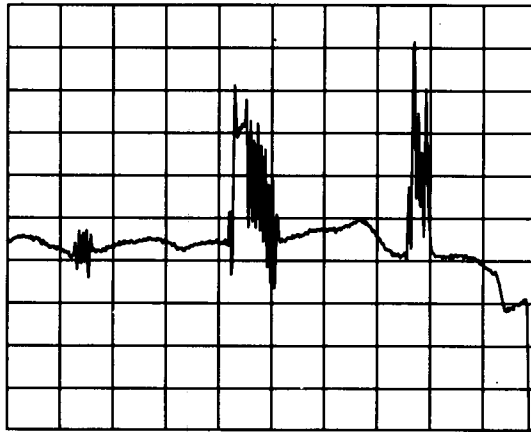

Figure 5-58. Oscilloscope Display with Squegging Present
- Using the DUT's front panel rotary knob (RPG), vary the ALC level from -20 dBm to $+20$ dBm. Look for squegging as shown in Figure 5-58. As the power level is increased, you will need to decrease the vertical sensitivity (CHAN A) and adjust the vertical positions on the oscilloscope. If any squegging occurs, examine the ENTRY DISPLAY to determine the requested ALC level. If the ALC level is at or below the maximum specified leveled power, adjust A22R50 (C) counter-clockwise to eliminate the squegging. If the ALC level is above maximum leveled power, what you are seeing is probably the RF output going unlevelled and cannot be adjusted out.
Squegging on the oscilloscope display may appear as shown in Figure 5-58 (power spikes and oscillations) or it may appear as power spikes without the oscillations. In either case the appropriate adjustment should be made to eliminate the squegging.